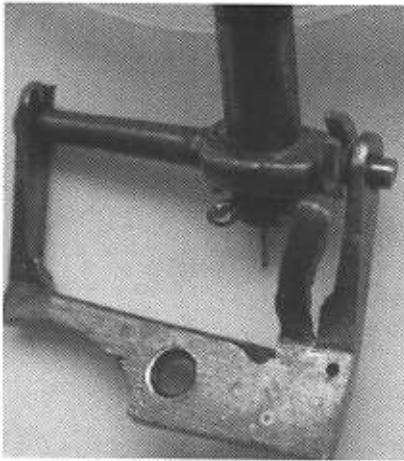

Fig 6. The rotation hook at the base of the bird. Type 4.
1. The cam assembly at the bottom of the barrel has the bird rotation cam between the song cams and the barrel, as shown in Figure 5 a), and not at the top as in Type 4. This necessitates a follower, as shown, located at the rear of the movement, rotating on a tube around the adjacent movement pillar. This follower operates a long lever above the barrel and whistle as shown in (Figures 5 b), and c). Bird rotation is achieved by a link at the end of this lever pulling on an eye at the base of the bird. (Figure 6). This is a simple system but gives only a limited range of rotation, not enough to give an effective bird performance. Also, the operating end of the long lever is in the same location as the flap acting on the lifting pin for the wings, tail and beak, and can inhibit the flap's movement. Bird rotation is much improved when it is replaced by the rack and lever system, as adopted in the Type 4 design as shown in Figures 3 a) and b), thereby ensuring a much greater range of movement. (The initiative for adopting a rack and pinion system may have come from the